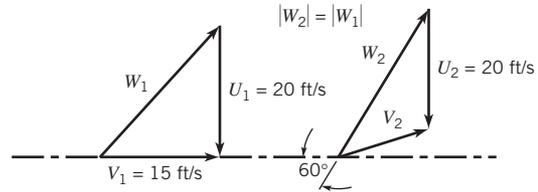

FIGURE P11.5
11.5 At a given radial location, a 15 ft/s wind against a windmill (see Video V11.1) results in the upstream (1) and downstream (2) velocity triangles shown in Fig. P11.5. Sketch an appropriate blade section at that radial location and determine the energy transferred per unit mass of fluid.